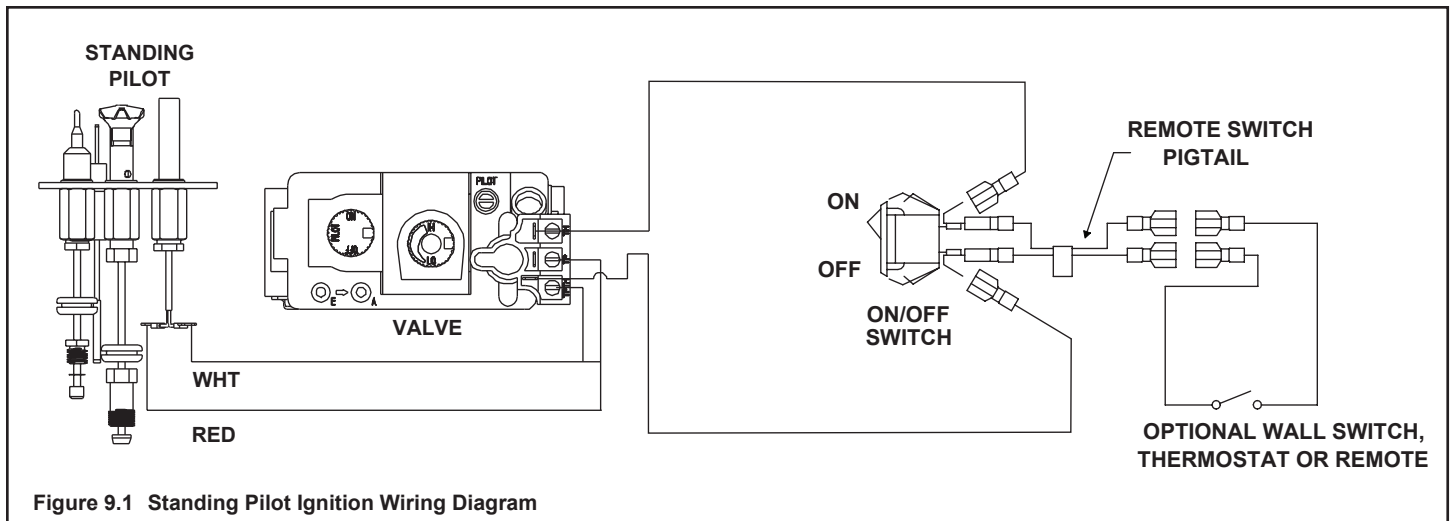

Figure 9.1 Standing Pilot Ignition Wiring Diagram
- If desired an additional wall switch or thermostat may be added to system as shown in Figure 9.1).